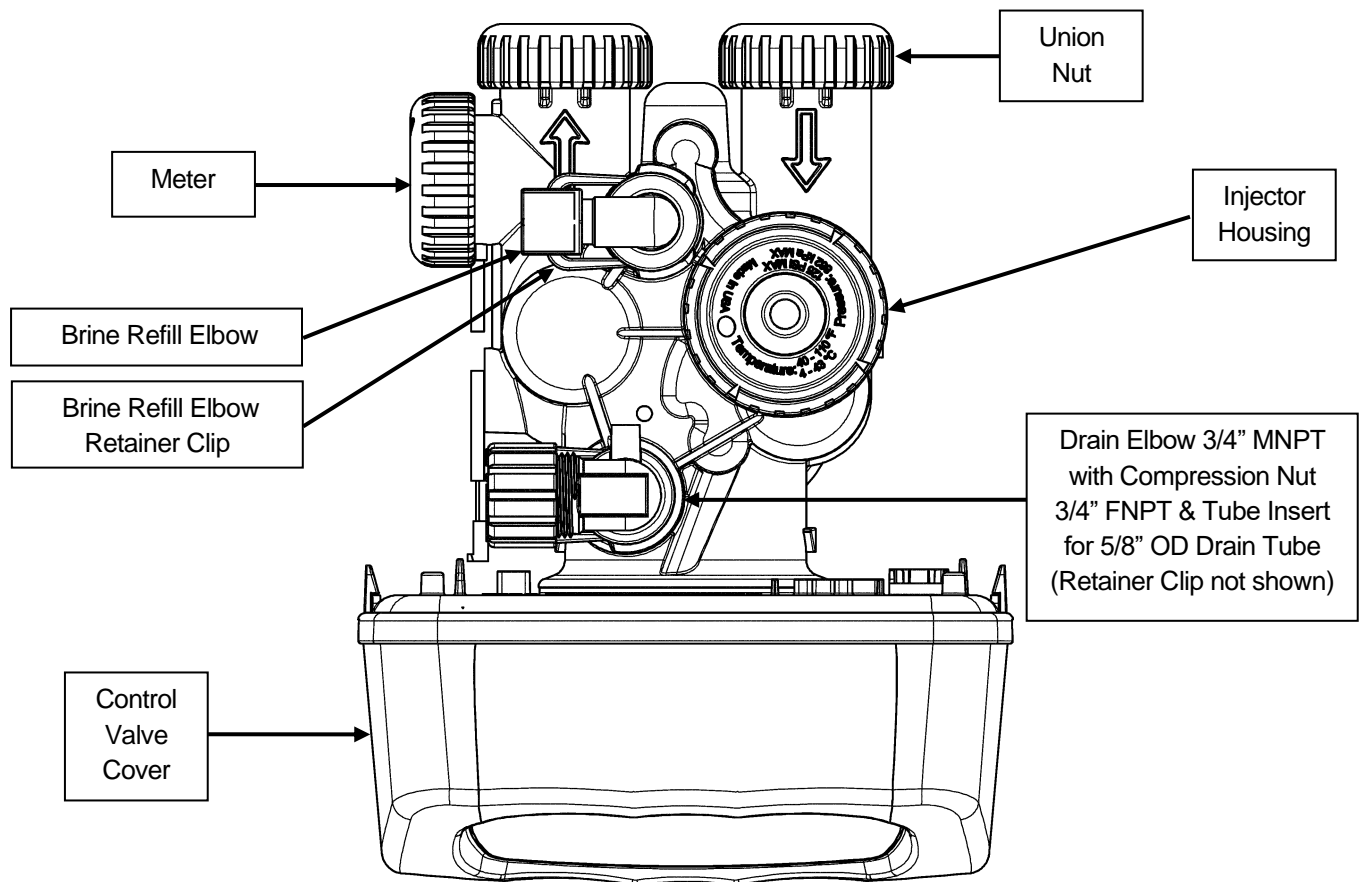
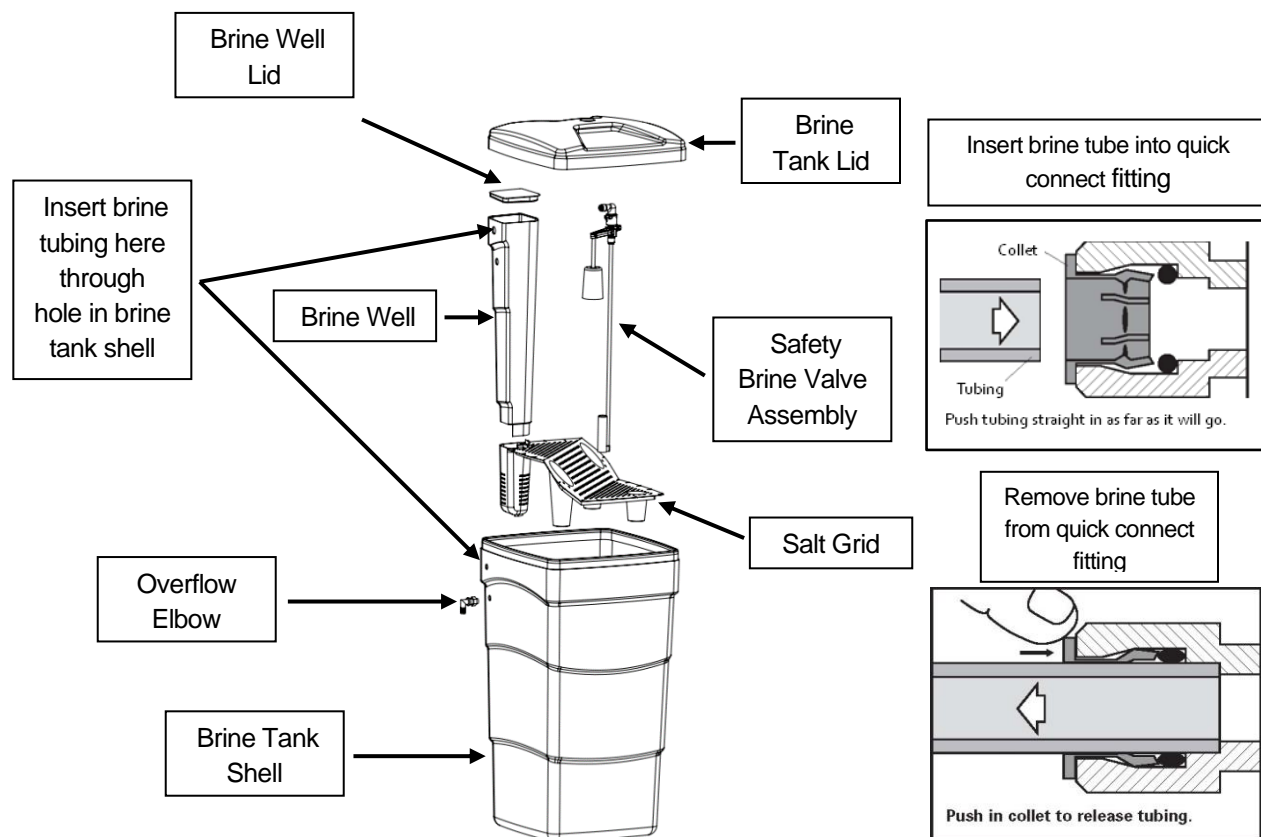

FIGURE 2: Top View of Control Valve
FIGURE 3: Brine Tank Components
- STEP 2:** Using the integrated coupling nuts, attach the bypass valve to the inlet/outlet of the control valve and put handles in the bypass position (Figure 2).
- STEP 6:** Use the provided polyethylene tubing (**NO VINYL TUBING**) to run drain line from control valve drain fitting (Figure 2) to floor drain or sump pit capable of handling the backwash rate of the system (refer to specifications on Page 12). **THE DISCHARGE END OF THE DRAIN LINE MUST BE FIRMLY SECURED!** There must be an air gap at the end of the drain line to prevent siphoning of wastewater and meet plumbing code. Total length of drain line should be 15' or less. **AVOID OVERHEAD DRAINS.**
- STEP 7:** Connect one end of the 3/8" brine line to the control valve quick connect brine refill elbow (Figure 2, Page 4). Insert the other end of the brine line through the hole in the brine tank and into the quick connect fitting on the top of the safety brine valve (Figure 3). Remove the quick connect collet retainer clip (if included) before inserting the brine line into each fitting, press the tube in very firmly and replace the retainer clip behind the collet. **NOTE: THE BRINE TUBING SHOULD BE INSERTED 5/8" INTO THE FITTING. DO NOT PUT SALT INTO THE BRINE TANK AT THIS TIME.**
- STEP 8:** If desired, install overflow tubing (not provided) from overflow elbow on brine tank (Figure 3) to floor drain. Tubing must be lower than the overflow elbow at all times. **DO NOT CONNECT DRAIN LINE FROM SYSTEM CONTROL VALVE TO BRINE TANK OVERFLOW. DO NOT CONNECT BRINE TANK DRAIN LINE TO THE SYSTEM DRAIN LINE.**